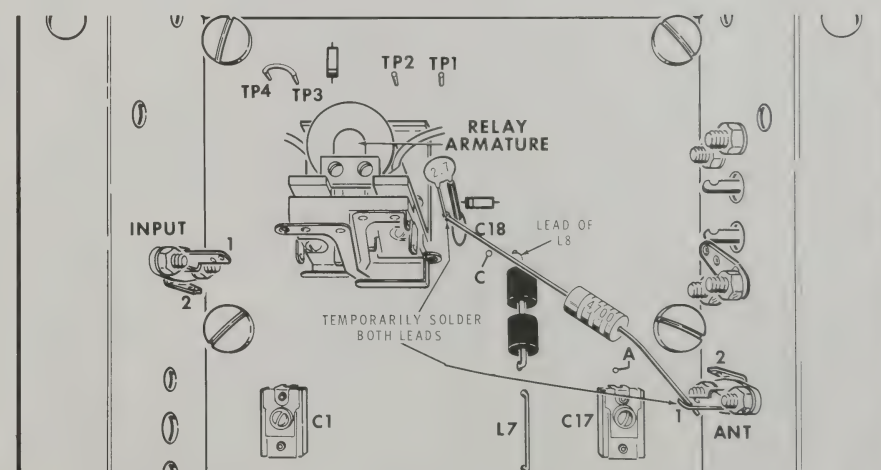

Figure 2-1B
- () Refer to Figure 2-1B and temporarily solder a 4700 Ω (yellow-violet-red) resistor to the ANT phono socket. NOTE: A coaxial cable was previously soldered to this terminal. Solder the resistor lead to the free lead of C18, the capacitor.
- () Refer to Figure 2-1B and temporarily solder one lead of the 4700 Ω (yellow-violet-red) resistor to lug #1 of the ANT phono socket. NOTE: A coaxial cable was previously soldered to this terminal. Solder the other resistor lead to the free lead of C18, the 2.7 pF disc capacitor.